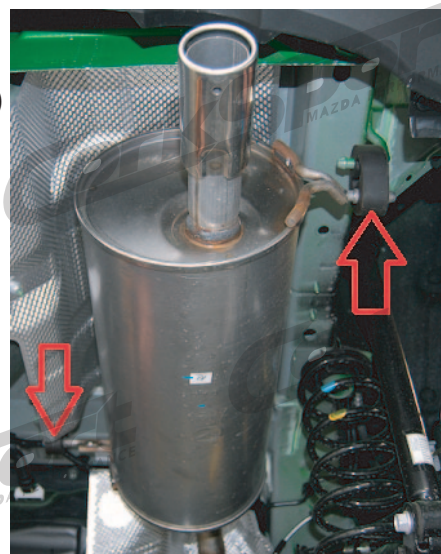

Figure 1C
C) Spray the two (2) muffler hangers (shown by the red arrows in Figure 1C) with silicone spray and remove the muffler section from the vehicle.